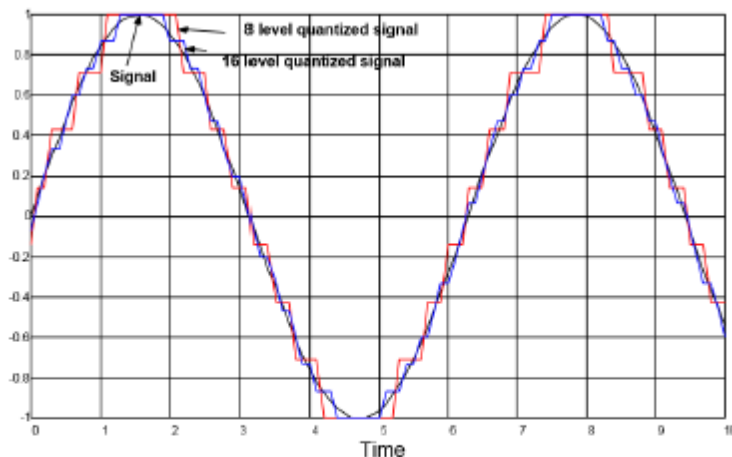

Figure 2.2 Sinusoidal signal before and after quantization.
We arbitrarily choose the duration of the signal to be 10s. The resulting SQNRs are 18.90 dB for the 8-level PCM and 25.13 dB for 16-level PCM, compare these values with the results that you get from your simulation. The plots are shown in figure 2.2.
11. Plot the input signal and quantized signal as in Figure 2.2. Use black solid line for signal, red solid line for 8 levels quantized and blue solid line for 16 level quantized signals. Use 'figure' function for multiple figures (you have to plot another figure in step 12).